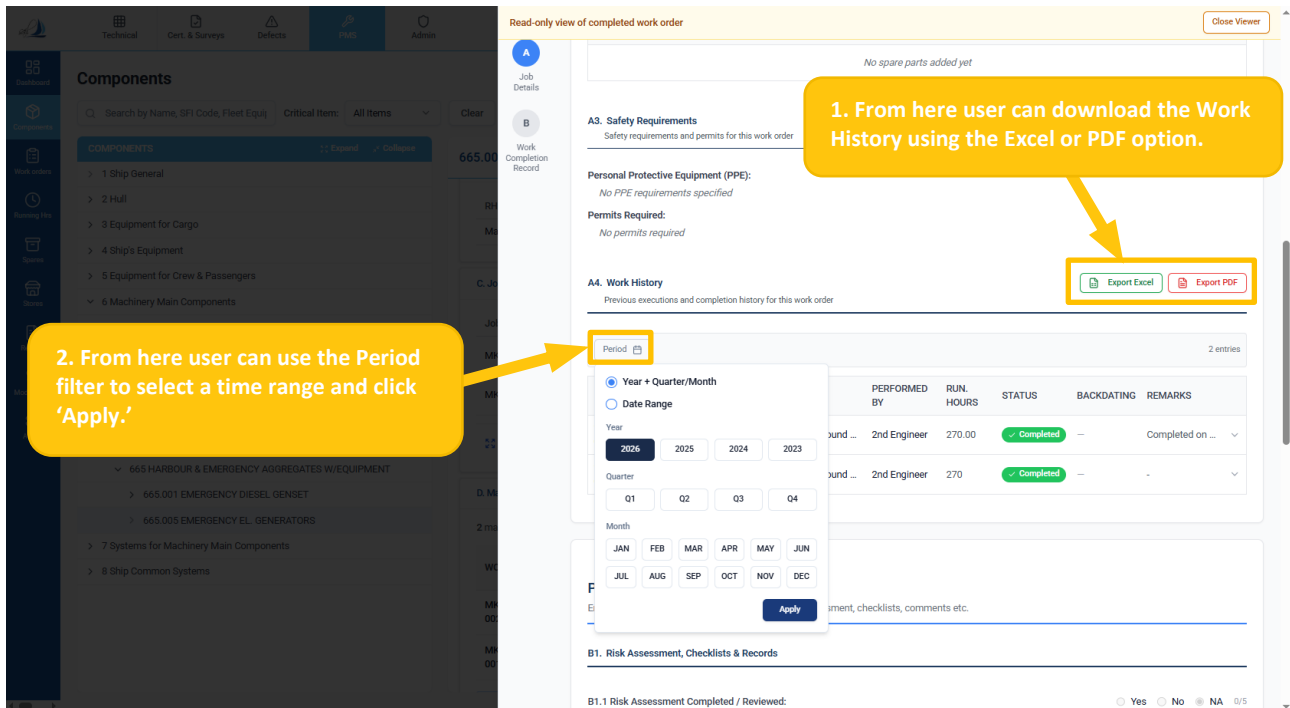

Figure 22
- Navigate to Work Order Form Part A4 section, from here the user can download the Work History in Excel or PDF formats by clicking the 'Excel' or 'PDF' buttons. (Ref Figure 22)
- Click on the 'Period' button and choose the required Year, Quarter, or Month, or choose a Date Range, and click 'Apply' to filter the data. (Ref Figure 22)